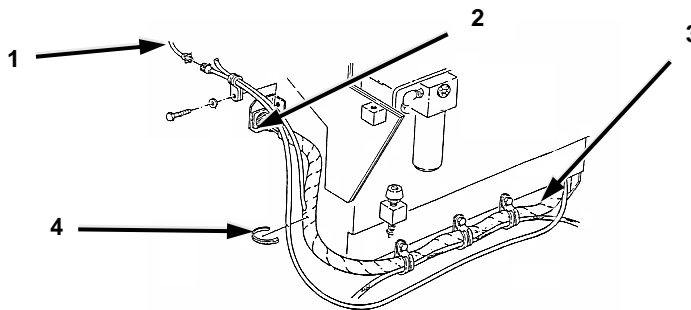

Figure 2-14. MCU Power Lead Routing from Driver's Compartment to Engine Terminal.
Step 4 below applies to Figure 2-14.
4. Route the MCU Power Lead (12491611-2) (2) along the existing wire harness (3). Use 5 or 6 Electrical Tie Straps (MS 3367-2-0) (4) to connect the MCU Power Lead (12491611-2) (2) to the existing Wiring Harness (3) on the front and right outside of the driver's compartment. Connect the MCU Power Lead (12491611-2) (2) end to the end of the MCU Power Lead (12491611-1) (1) on the right outside of the driver's compartment inside the engine compartment.